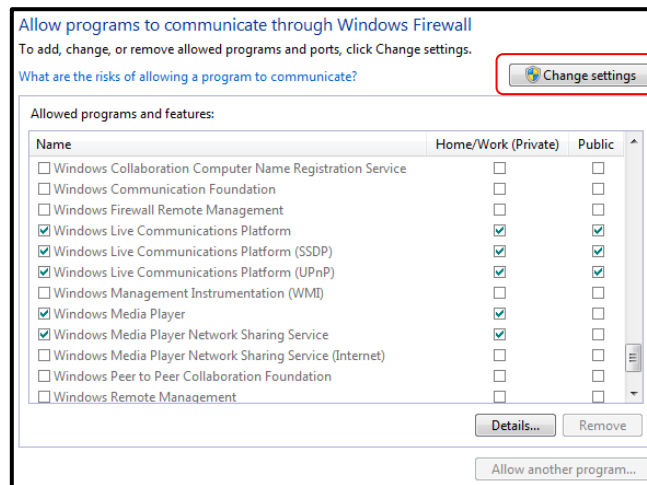

Figure 85 - Enabling firewall settings changes
3. Click the “Change settings” button. Refer to Figure 85.